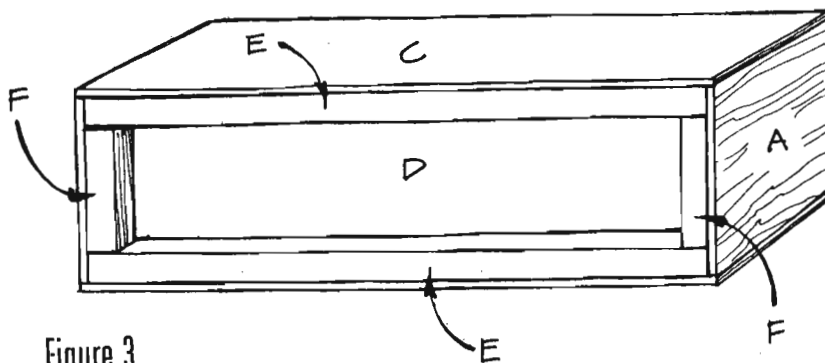

Figure 3
1. Cut one 46-1/2-inch by 15-1/2-inch bottom (D) from 3/4-inch-thick plywood.
2. Turn the assembly upside down so that the 2-1/4-inch offsets are at the top. Then fit the bottom (D) inside the front, back, and sides (A and C), resting it on the ends of the four corner supports (B). Glue and screw the bottom in place at all four corners using one 2-inch-long screw in each corner. This will hold the bottom in place until you add the reinforcements.
3. Cut two long reinforcements (E) from 2 x 2 pine, each 46-1/2 inches long.
4. Cut two short reinforcements (F) from 2 x 2 pine, each 12-1/2 inches long.
5. Glue and screw one long reinforcement (E) in place, flush against the bottom (D) and front or back (C), as shown in *Figure 3*. Screw through the front or back (C) into the long reinforcement (E). Use 2-inch-long screws and space them about 4 inches apart.
6. Repeat step 5 to attach the remaining long reinforcement (E).
7. Turn the assembly right side up. Now screw through the bottom (D) into each of the long reinforcements (E), placing one 2-inch-long screw about every 5 inches.
glue and screw the two short reinforcements (F) between the long reinforcements (E). Again refer to *Figure 3*.